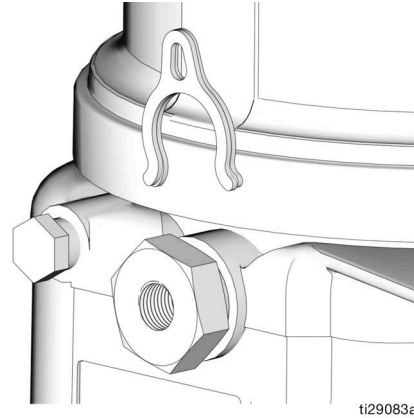

FIG. 17
6. Use a wrench to turn the pump element counter-clockwise to loosen. Do not remove the entire pump element. Only back the pump element out enough to allow a spacer to be slid on or off. (FIG. 17).
The pump volume control is set using no spacers, one (1) or two (2) spacers (FIG. 17).